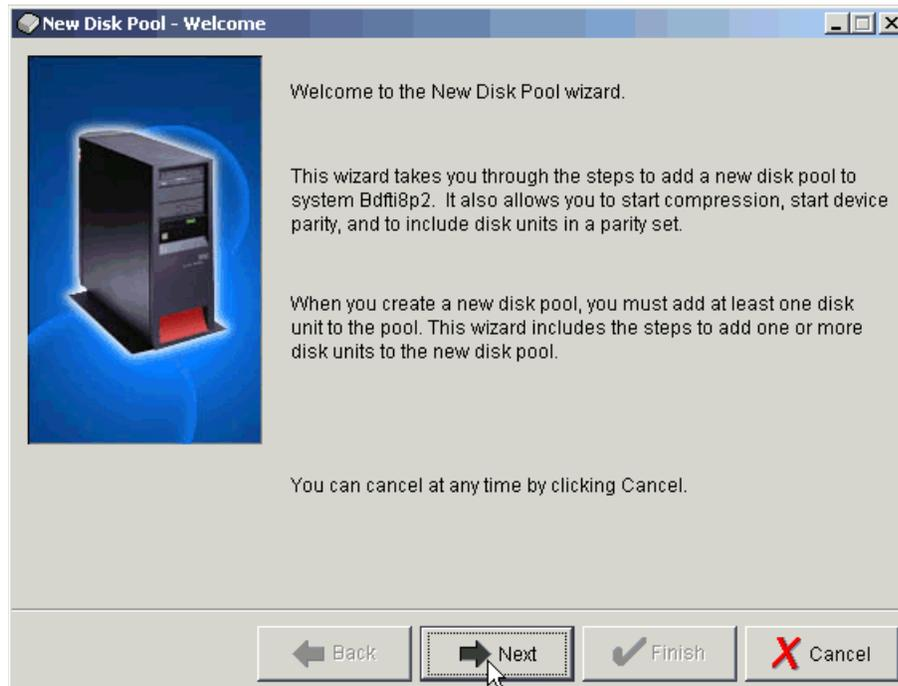

Figure B-11 New disk pool - welcome
- The New Disk Pool wizard appears as shown in Figure B-11. Click **Next**.